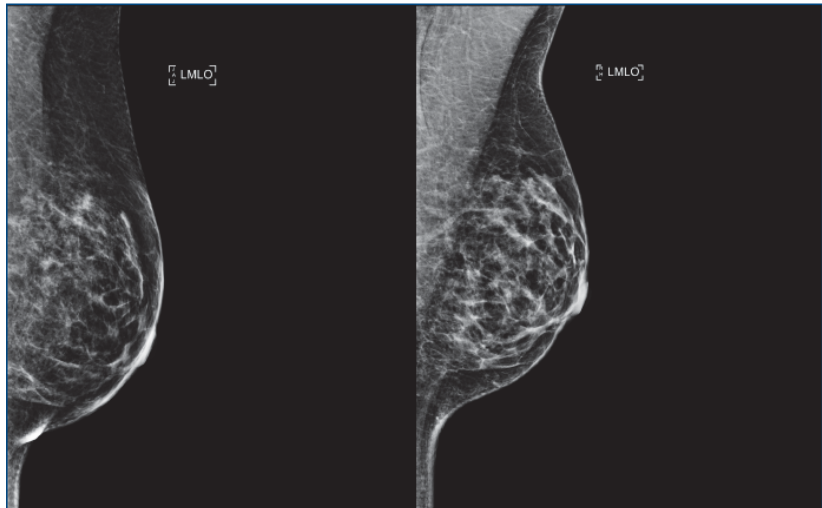

Figure 2: The pectoralis is narrow in the axilla (left). It is thicker after adjustment of the image receptor (right).
**Problem 2:** The margin of muscle at the axilla is narrow, resulting in potential exclusion of posterior lateral/medial breast tissue (Figure 2).
**Equipment setup:** The corner of the image receptor (IR) is placed too far forward in the axilla. Place the IR just anterior to the latissimus dorsi.